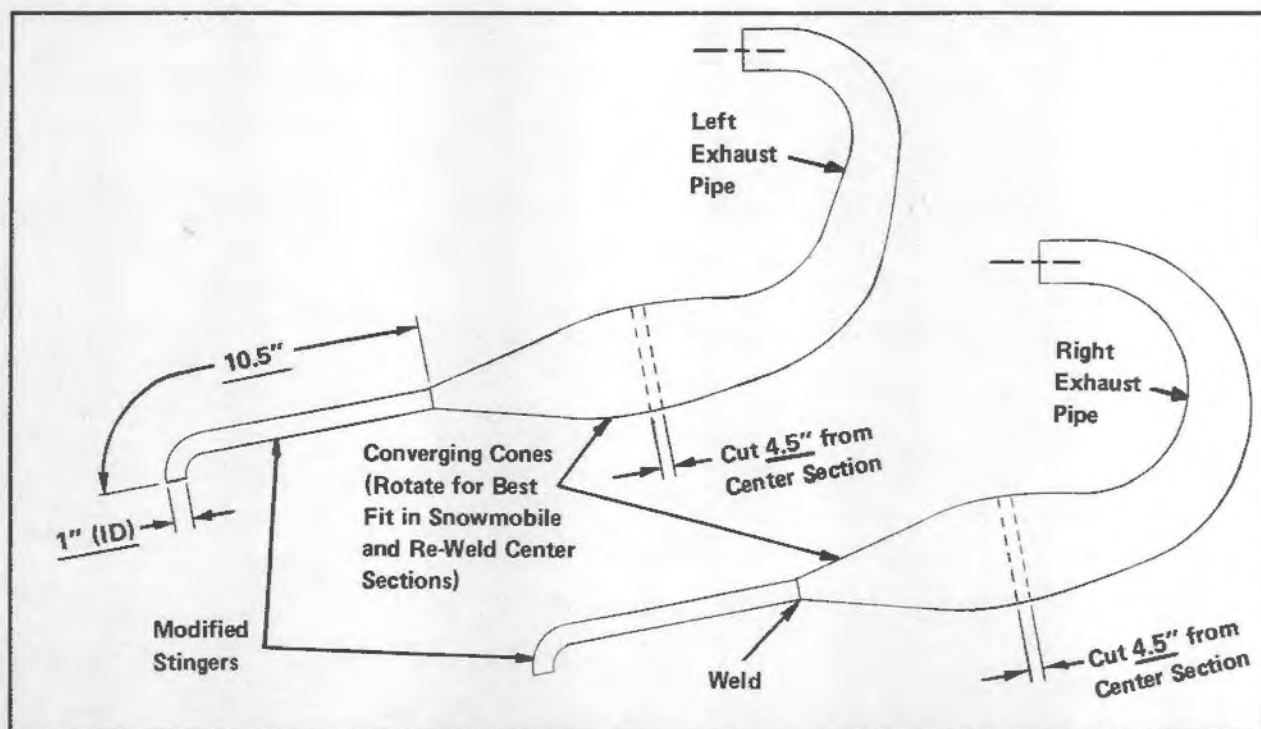

Figure 2. 340 S/T "Super-Modified" Exhaust Pipes
1. Cut 4.5" (11.43cm) from center section of each exhaust pipe. (Figure 2)
*NOTE: Converging cone of exhaust pipes may have to be cut back slightly, so that inside diameter (ID) of cones are enlarged to 1" (25.4mm) (same ID as replacement stinger).*
2. Weld modified stingers [1" ID x 0.040" thick (approximately) x 10.5" long (25.4mm x 1.02mm x 26.67cm) - Figure 2] to converging cones. Be sure that welds are smooth and do not restrict exhaust.